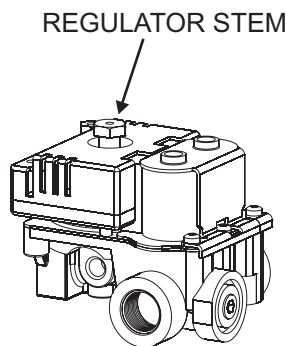

Figure 35
3. Unscrew regulator stem from gas valve and reverse regulator stem to the natural gas position and screw stem back into gas valve. See Figure 35
4. Open four (4) door latches in order to pivot open the front door.
Installation: The Remote Control can be installed by the owner of the heater if required. The Remote Control is a battery operated device, which requires a small amount of low voltage wiring. A wiring loom package is supplied by Empire Comfort Systems, Inc. which simply attaches onto the junction box. See Figure 35.